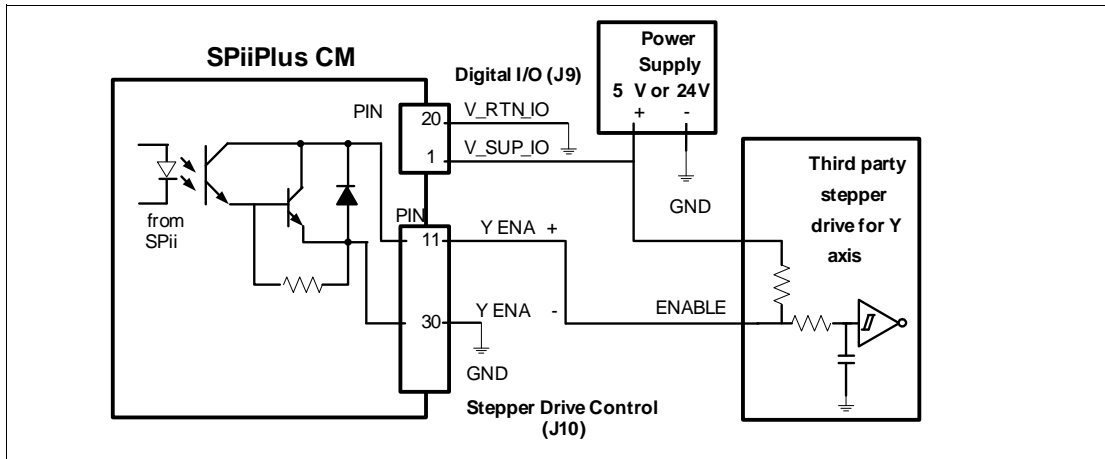

Figure 30 Connection To Stepper Drive With Enable Sink Output (Y axis)
- ❑ **Figure 30** is an example of a sink-type enable connection to a stepper drive with an external power supply. When the drive receives GND, it is enabled.